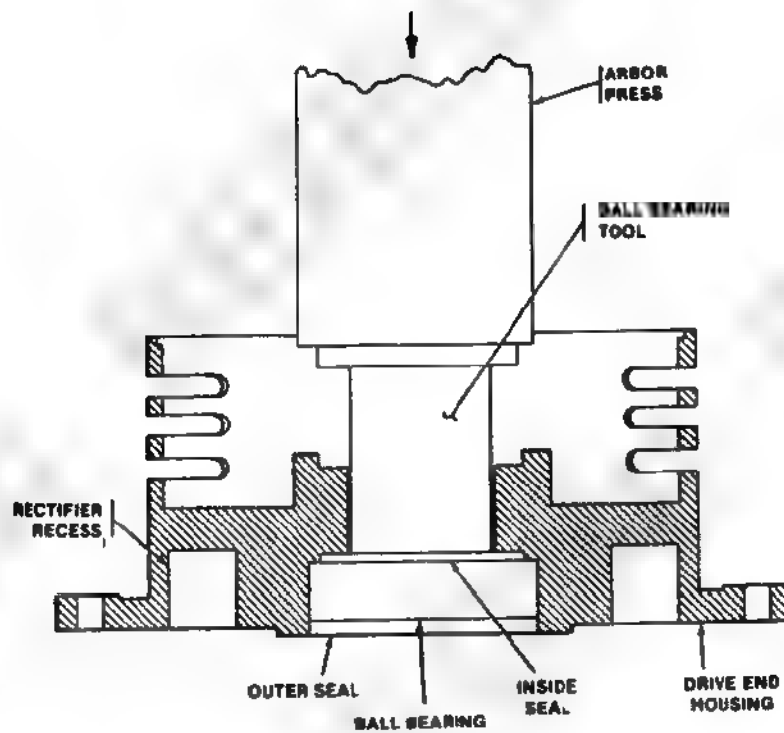

Figure 3-6. Inside Seal, Ball Bearing, and Outer Seal Removal from Drive-End Housing Assembly.
(b) Place ball bearing tool **(fig. F-1)** on inside seal according to **figure 3-6**. Press out inside seal (22), ball bearing (23), and outer seal (24), all at the same time. Discard both seals and ball bearing